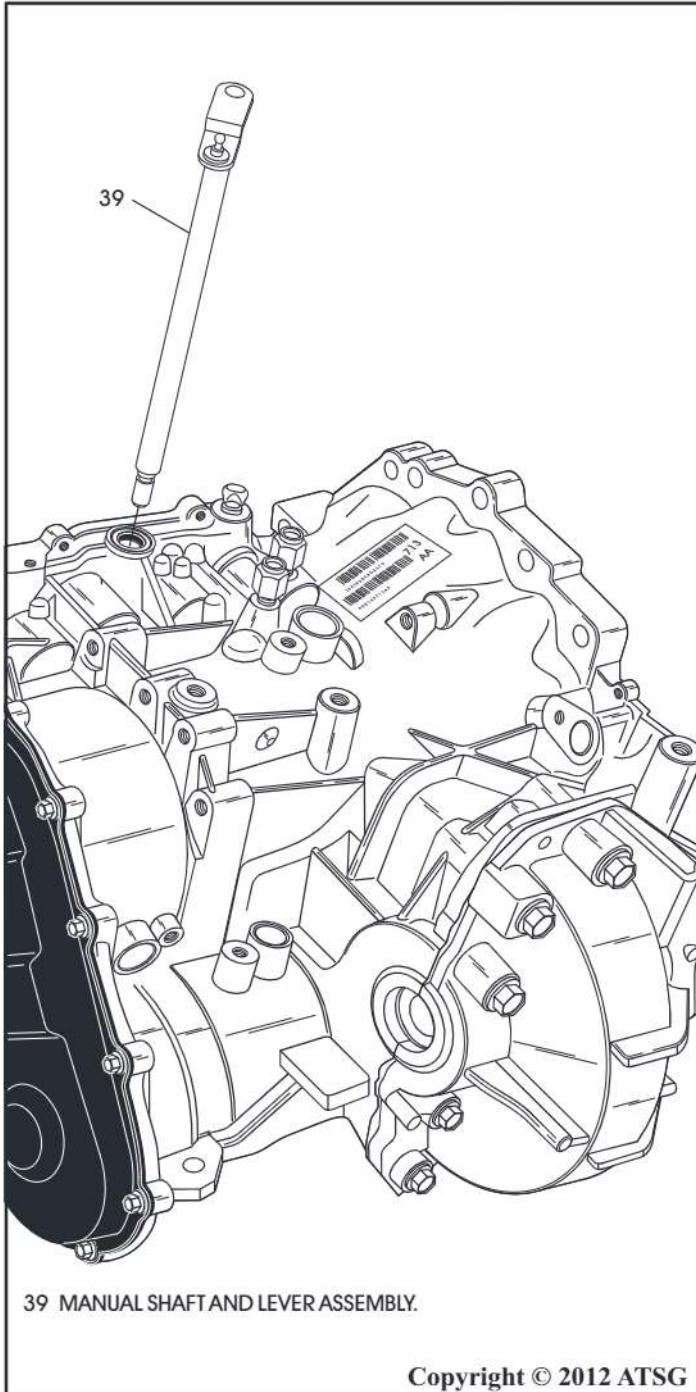

Figure 268
70. Lube manual shaft seal and install the manual shaft and lever assembly into the case bore, as shown in Figure 268, about half way.